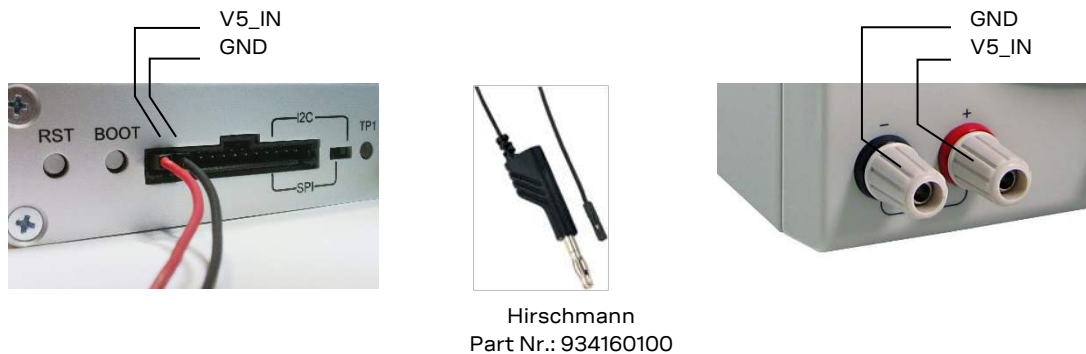
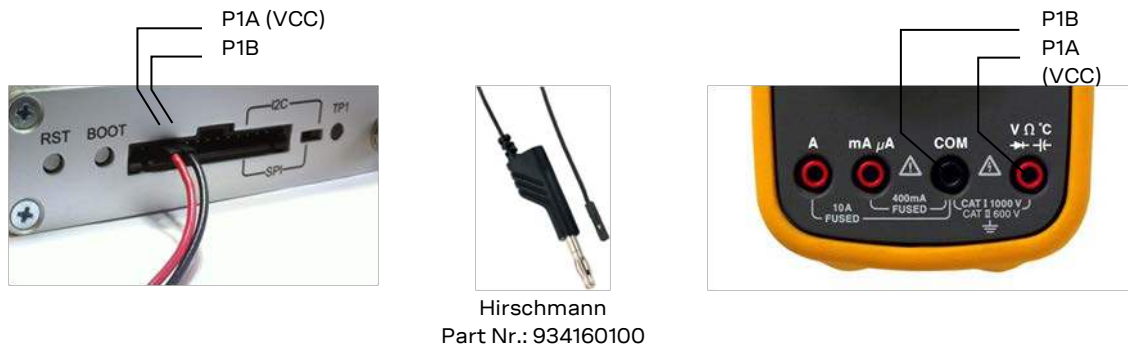

Figure 3: Example 5V DC power supply
Figure 4: Example – tracking current measurement
For accurate measurements, it is recommended to use a cable of at most 1 meter in length. Figure 3 shows an example of a power supply connected to the test connector by using standard adapter cables from the manufacture Hirschmann. Figure 4 shows an example for overall current measurement. When connecting the 3.3 V digital interfaces RS232, SPI and DDC to your application, a cable length less than 25 cm is recommended.
1. Connect a true RMS voltmeter across P1A (VCC) and P1B of the front connector. (See Figure 4.)